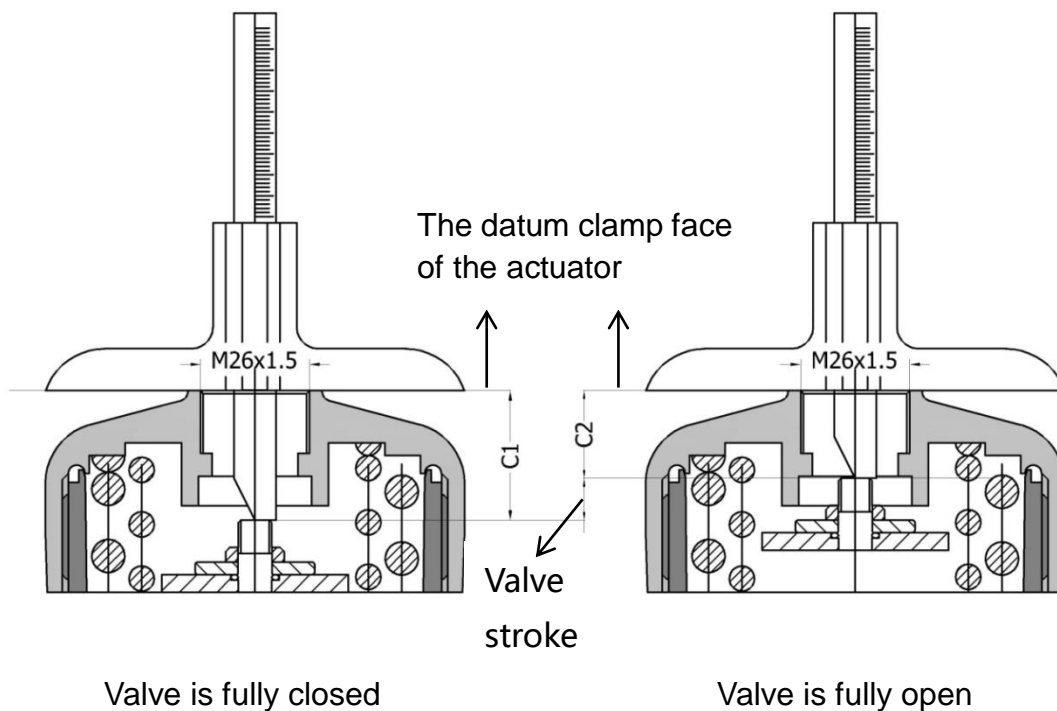

Figure 4. Actuator measurement
2. Separately measure the C1 value when the valve is fully closed and C2 value when the valve is fully open by **the depth ruler**. The values are the distance between the stem top and the datum clamp face of the actuator. As shown in Figure 4.